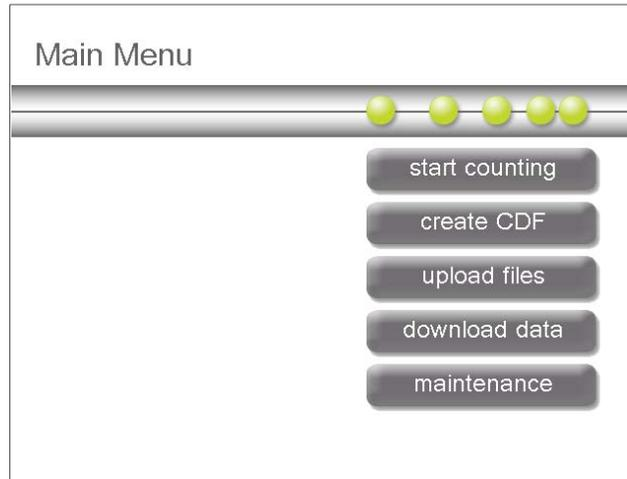

Figure 2.23 Main Menu
1. From the Main Menu (Figure 2.23) select **start counting**.